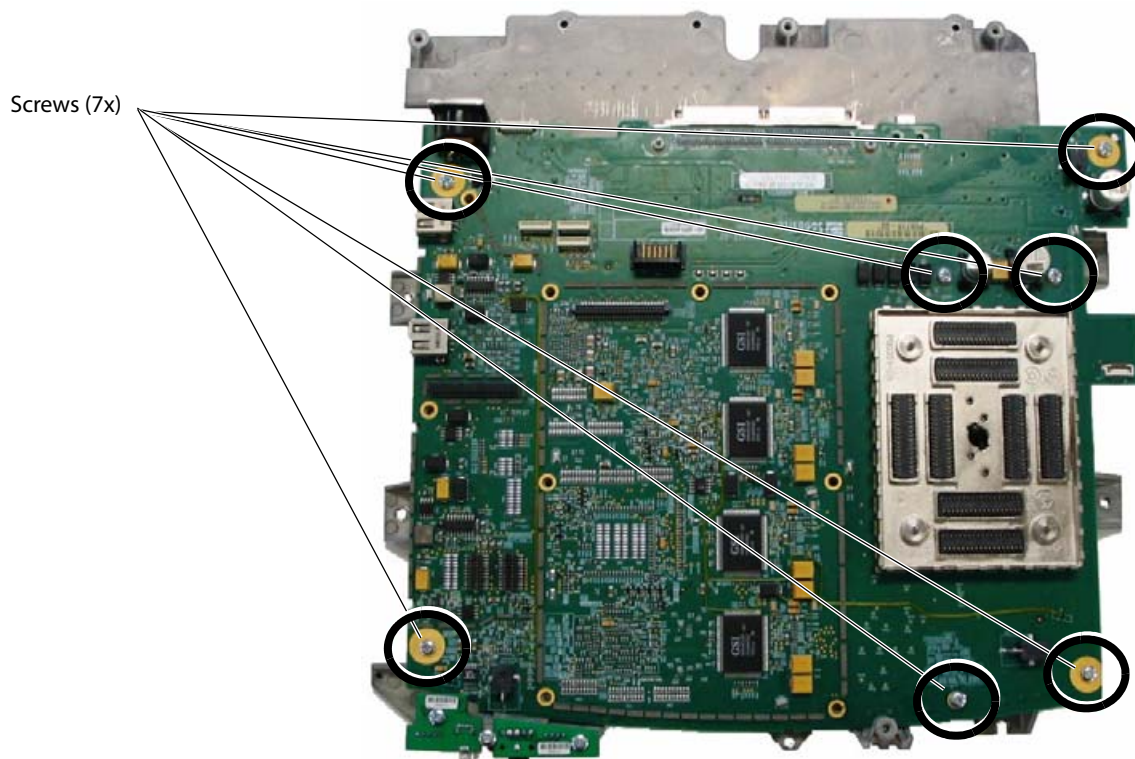

Figure 4.20 Main PCBA Screw Removal
- 6 Remove the seven screws as shown in Figure 4.20.